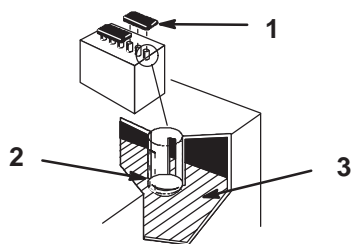

Figure 65
1. Open covers to see into the cells. The electrolyte must be up to the lower part of the tube (Fig. 65). Do not allow the electrolyte to get below the plates. (Fig. 65).
2. Lift off the filler caps (Fig. 65).
3. Slowly pour distilled water into each battery cell until the level is up to the lower part of the tube (Fig. 65).